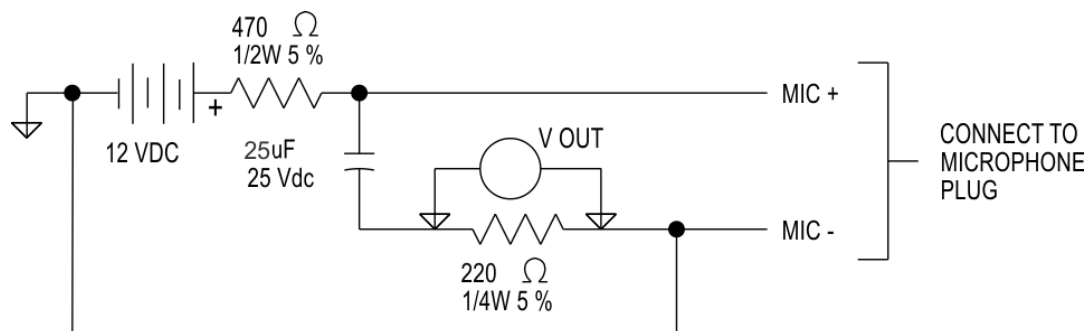

FIGURE 12. Airman 850 Headset Boom Microphone Sensitivity Check and Adjustment Test Circuit
1. Construct a **test circuit**. For more information, see Figure 12.